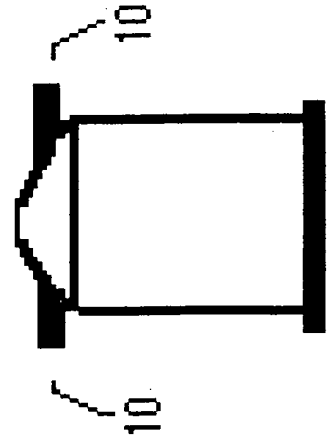

FIG. 5
- Fig 5 shows spark plug ~~(tip)~~ TERMINAL with built-in slot-pins  $\pm 9$  mm in length.